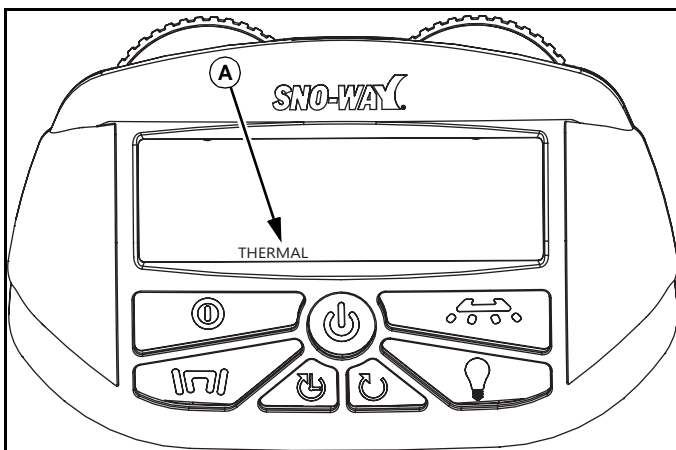

Figure 1-21
Thermal Code (A) indicates that the unit has been run excessively long under hard loading conditions and the receiver (out on the spreader) has overheated. The unit will resume in pause mode when it has cooled down. (See Figure 1-21.)